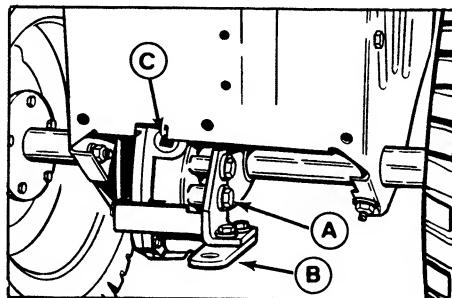

Figure 14. Transmission Oil Level Check (Drawbar Removed)
- Remove the transmission oil level check capscrew (A, figure 14).
- Oil should be level with bottom of hole. If not, remove the fill plug (C) and add Simplicity Multi-Purpose Hydraulic/Transmission Oil. When oil is level with check hole replace and retighten capscrew and fill plug. (Apply sealant to capscrew thread before reinstalling).